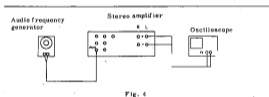

Fig. 4
The measurable part of the audio amplifier are the input terminal and the output terminal to the speaker, because it is difficult for the capacitance of the shielded wire to the input terminal to the oscilloscope. Generally, the output terminal to the input terminal to the oscilloscope. Generally, the output terminal to the speaker is affected little, for the impedance of the output terminal to the speaker is fully lower than the impedance of the shielded wire. (See Fig. 4)
Connect the VERT INPUT terminal (7) and (8) to the output terminal to the speaker and the sine-wave from the audio frequency generator to the AUX terminal. Keep the amplitude of the sine-wave and change the frequency through its range. The frequency response at each frequency is represented as the amplitude on the CRT screen. (See Fig. 4)